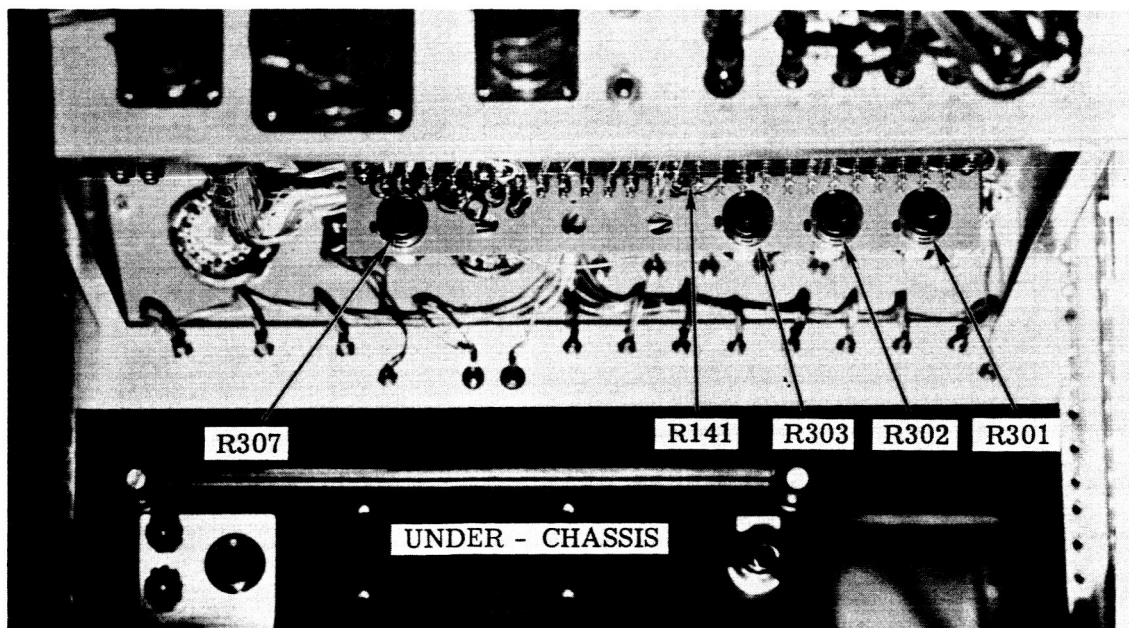

Figure 2-5. Control Panel, Rear
INTERNALLY LOCATED CONTROLS (See Fig. 2-5.)
2-11. Calibration of Monitoring Circuits (See Fig. 2-5 for location of adjustment controls.)
- c. Disconnect digital voltmeter cable from control panel connector and connect digital voltmeter across terminals of R 141. (See Fig. 2-5.)
- a. Switches S30 and S31 at OFF (down). (See Fig. 2-5.)